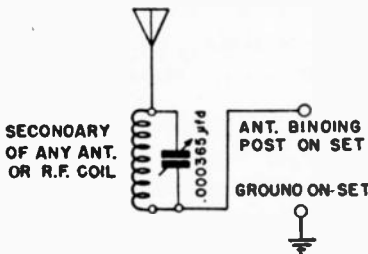

Fig. 209
2. Try a wave trap which should be adjusted to absorb partly or totally the interfering station. Circuit is shown in Fig. 209.